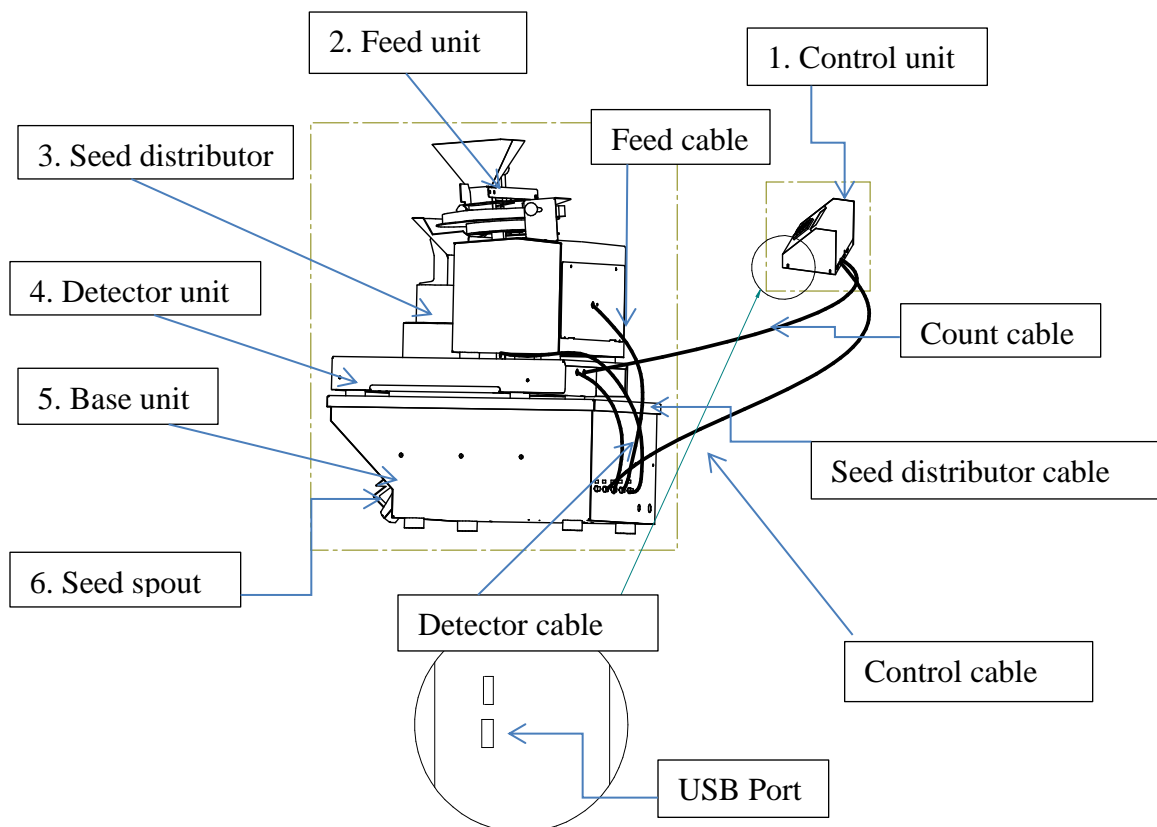

Figure 2.1 Esc-2 Seed Counter Setup Demo Figure
- Setup all parts of 'ESC2-TSR Seed Counter as shown at Figure 2.1 (page 7) and connect all cables to each associative port.